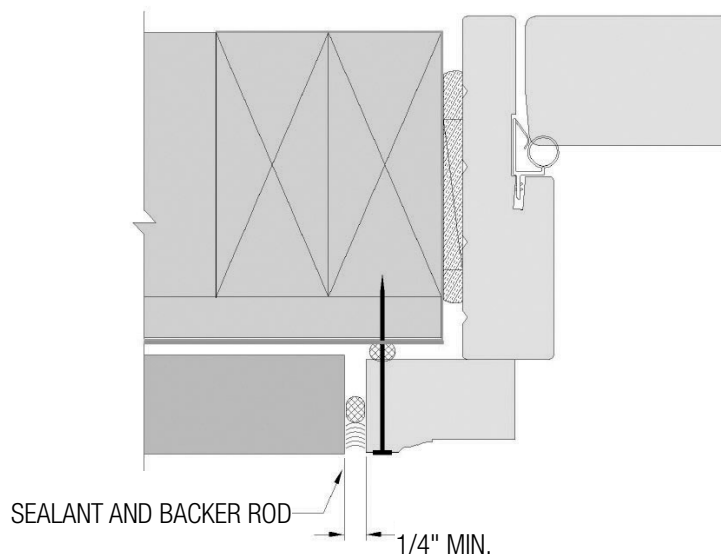

FIG. 20: SIDE JAMB
- A) After siding or wall exterior is complete, apply backer rod and sealant between the door frame and siding material on both sides. (Fig. 20)